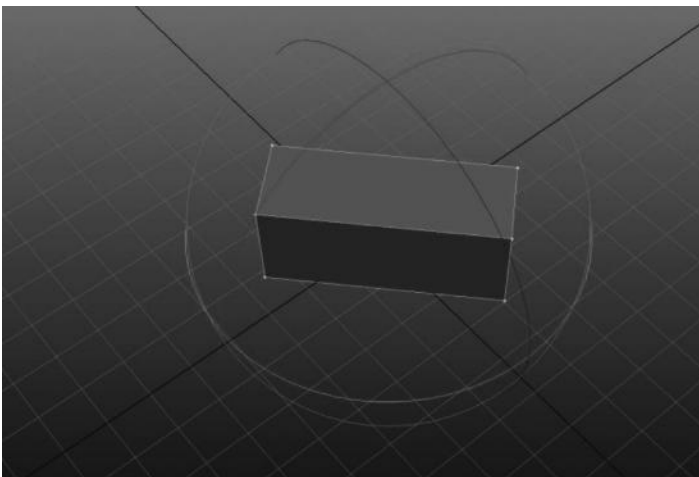

FIGURE 1.9 A cube showing the planes of rotation.
**Rotation** is an interesting transform. Rotating an object is really just translating it, but around a specific point in space. Therefore, wherever your pivot is, the object will translate itself in orbit, around that pivot. Imagine a ball on a string. If you spin the ball on that string, it will be moving in space. However, it will be moving around the point at which you are spinning it, in a perfect circle. This is how rotation works—it spins the object around a point in space. This happens like a nail with a string in it; if you hold on to the string and walk, you will always form a perfect circle around the point where the nail is set. This nail represents the **pivot** point of the object. In Figure 1.9, you can see how the points of the cube revolve around the pivot point but maintain their respective distances from each other perfectly. This is an example of a hierarchy. The points inherit the movement of the transform.